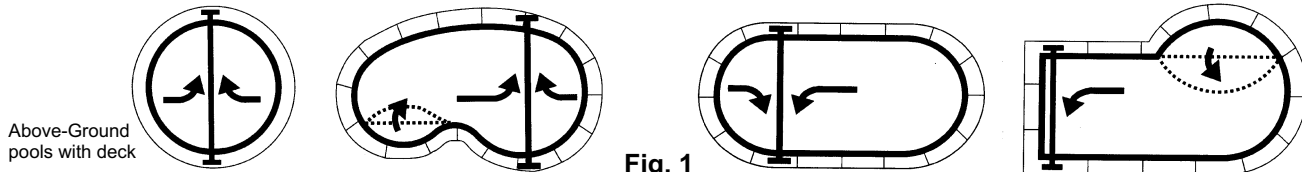

Fig. 1
A. Determine the best location for the reel system. The widest point of the pool is the preferred locations (see Fig. 1 below).